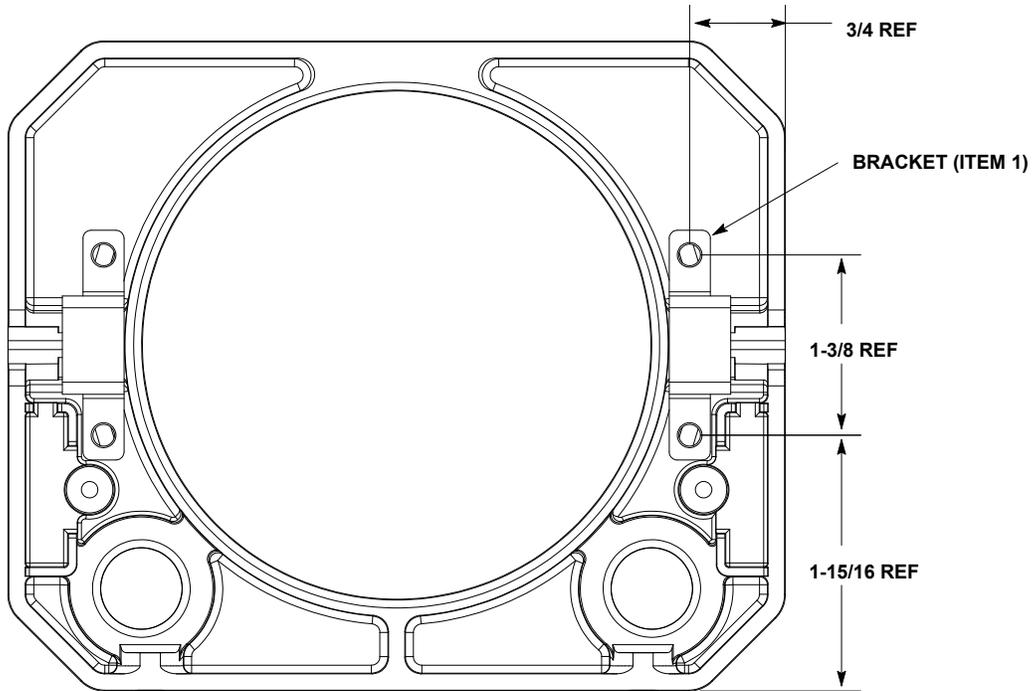

Figure 3.
5. Using the bracket (Item 1) as a guide, drill four (4) 1/8-Inch holes (See Figure 3).